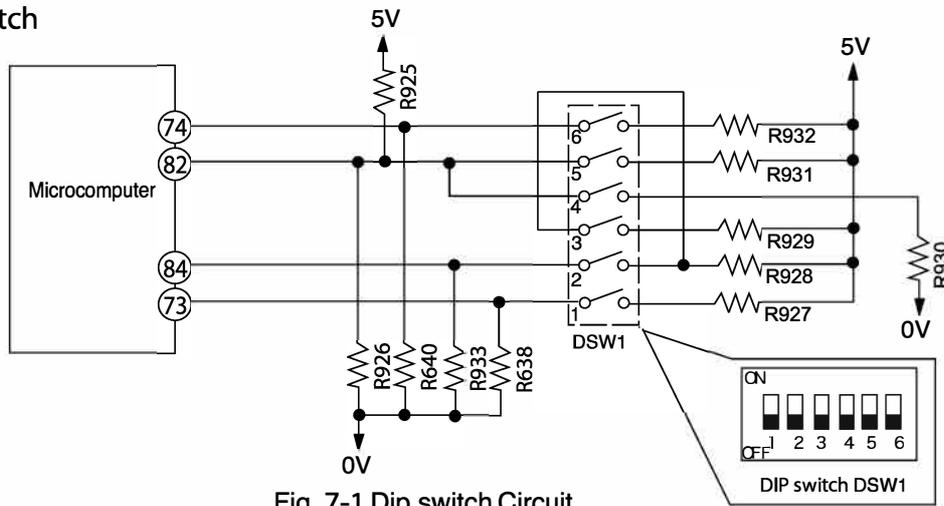

Fig. 7-1 Dip switch Circuit
- Fig. 7-1 shows the dip switch circuit; the table shown in Fig. 7-2 are function and setting position from ①–⑥ of the switch No.